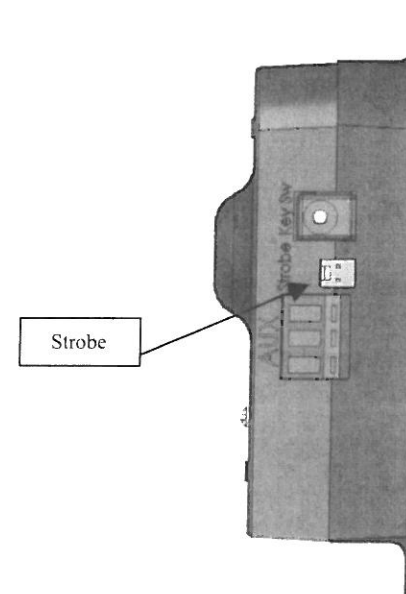

Figure 3-1
The strobe is used as a visual indication of the alarm being activated. The strobe is powered by the alarm and only requires to be connection to the right side of the alarm see figure 3-1. When the alarm is in the off position the strobe will still activate when the door is open. The strobe can be purchased at the same time as the alarm or added after.
- 5) CHECK CONNECTION ON STROBE (IF SO FITTED) THAT IT IS PUSHED IN AND SECURE. PG. 6 SECTION 3, FIGURE 3-1.